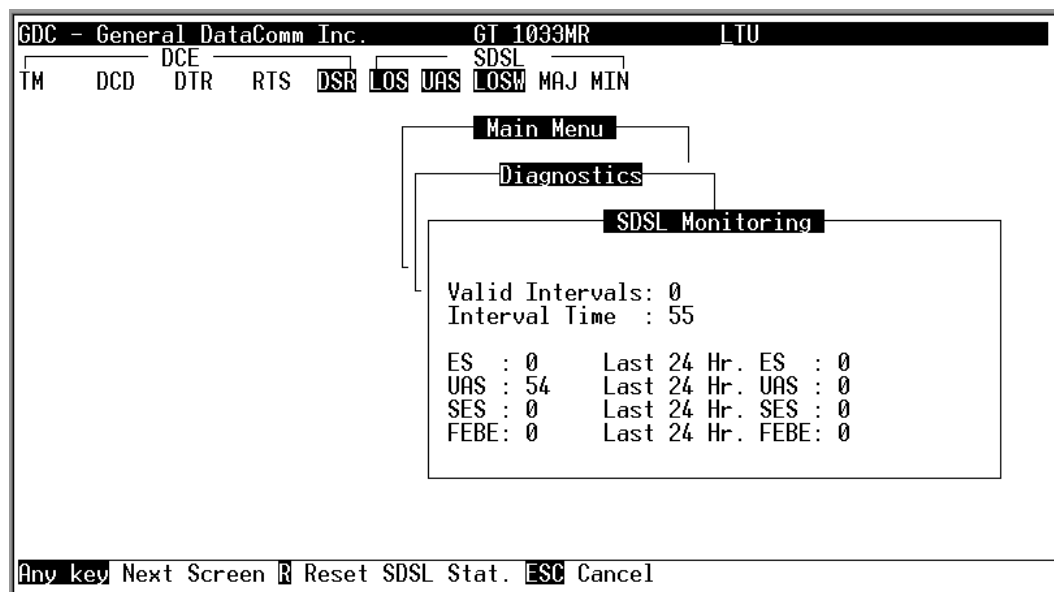

Figure 3-5 SDSL Monitoring Screen
The SDSL Monitoring screen displays 24-hour performance statistics on the SDSL loop. To display the SDSL monitoring screen, select item 1 on the diagnostic menu. Figure 3-5 shows the SDSL Monitoring screen and Table 3-6 explains the fields.